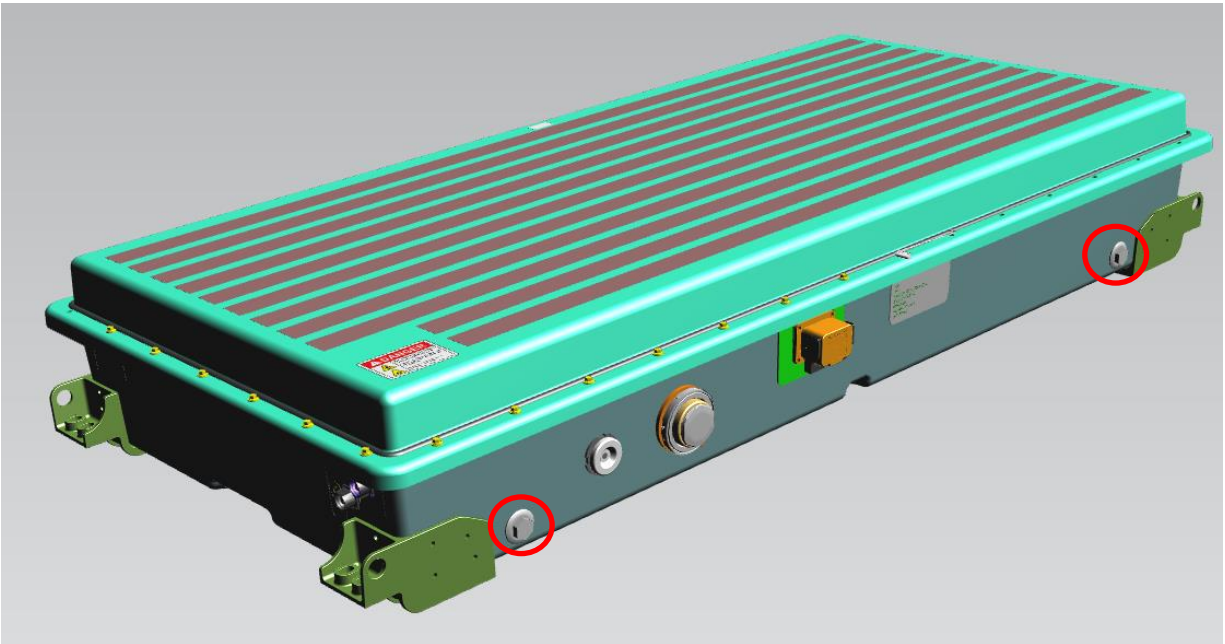

Figure 2: Complete ESS Enclosure – Rear Drains Visible
5. Gain access to the to both the front and rear drains of the rear ESS. Reference Figure 2 on the following page for an exemplar ESS with rear drains visible.